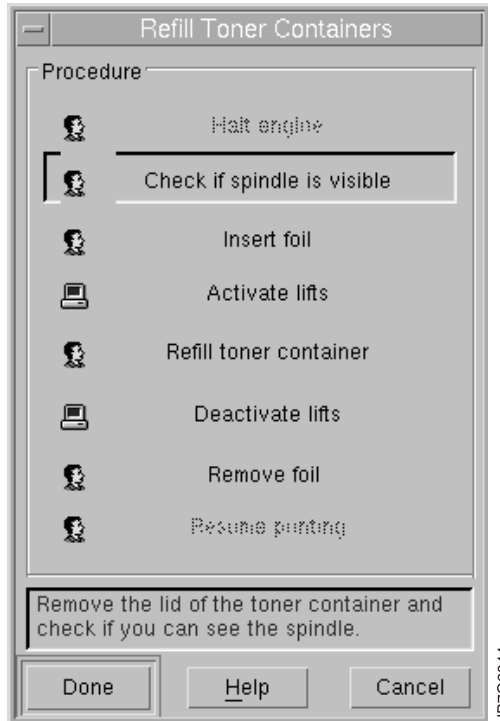

Figure 264. Refill Toner Containers Window
- 16 Place the lid back on the container and click the **Done** pushbutton in the **Refill Toner Containers** window, as shown in Figure 264.